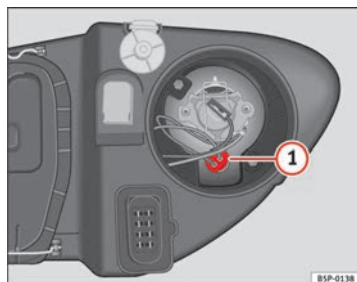

Fig. 192 Side light
- Extract the bulb holder ⇒ Fig. 192 **1** outwards.